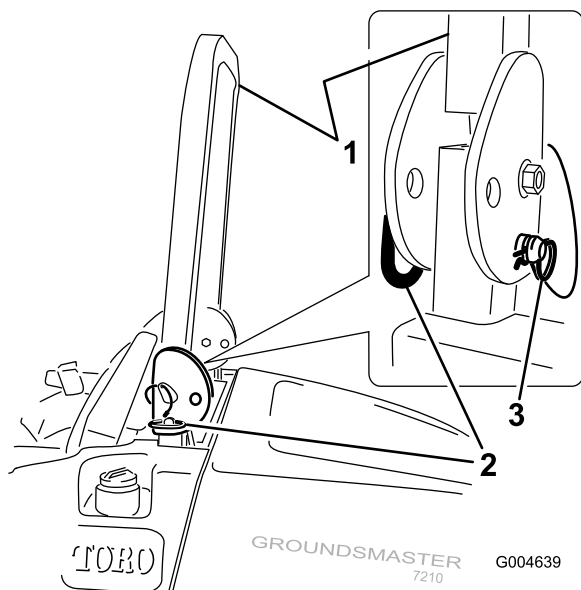

Figure 13
1. To lower the roll bar, remove the hairpin cottes, push the roll bar forward against the springs, and remove the two pins (Figure 13).
3. Install the two pins and secure them with the hairpin cotter pins (Figure 13).
4. To raise the roll bar, remove the hairpin cotter pins and remove the two pins (Figure 13).
5. Raise the roll bar to the upright position and install the two pins and secure them with the hairpin cotter pins (Figure 13).